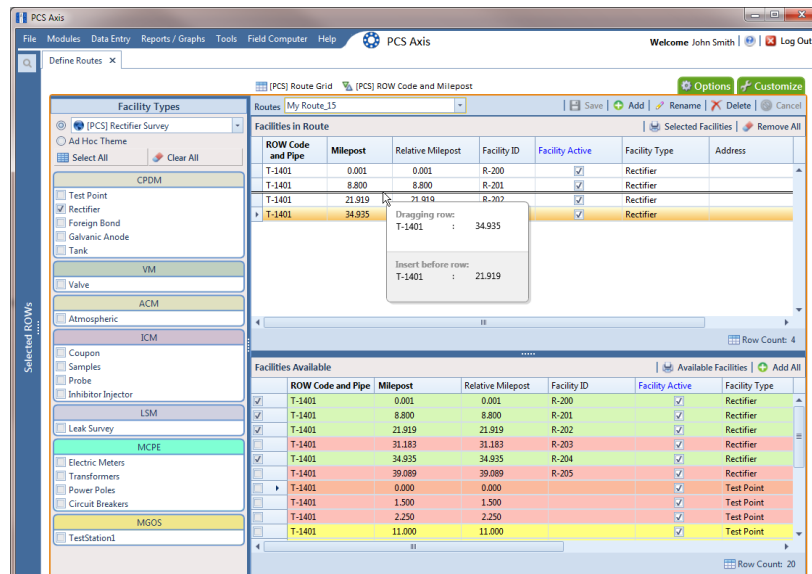

Figure 8-12. Arranging the Order of Facilities
- 2 Arrange the order of facilities listed in the *Facilities in Route* grid as needed using any of the following methods (Figure 8-12):
NOTE: A message displays when moving selected grid rows to confirm the new location in the grid (Figure 8-12, page 390).